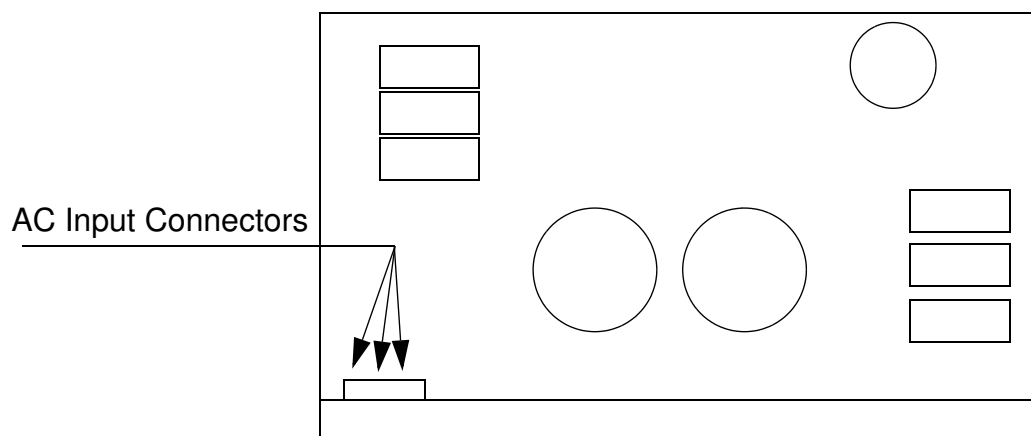

Figure 3.1-2. Position of AC input on Booster Boards
3. The booster boards can be checked one at a time by running the system with only one board connected. Disconnect one of the boards by removing the AC input connectors coming from the EMI filter and connected to the rectifier mounted to the heat sink, see Figure 3.1-2. Note that you probably need to first remove the board from the power supply, disconnect it and then put it back into the power supply again.